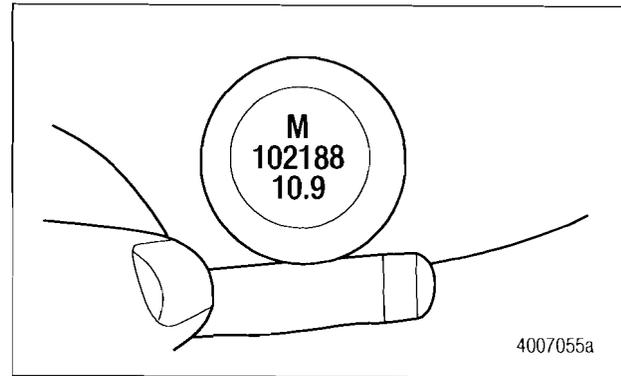

Figure 9
5. Verify the wheel stud is fully seated against the hub flange. Use a 0.002-inch feeler gauge to check the gap between the wheel stud and the hub flange. If the feeler gauge fits under the wheel stud head, reseal the wheel stud. Figure 9.
7. Verify the wheel stud is fully seated against the hub flange. Use a 0.002-inch feeler gauge to check the gap between the wheel stud and the hub flange. If the feeler gauge fits under the wheel stud head, reseal the wheel stud. Figure 9.